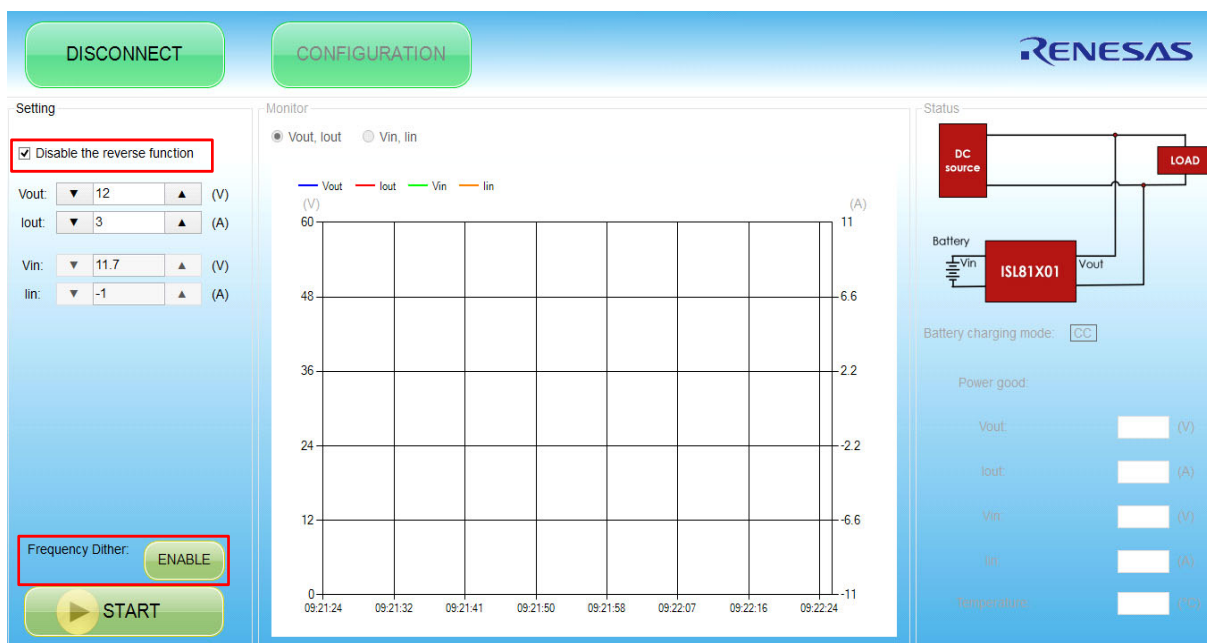

Figure 17. Disable Reverse Operation and Enable Dither Functions
- **Disabling the Reverse Function:** If there is no charge requirement, and the input terminals (VIN, GND) are connected to the power supply, check **Disable the reverse function** (see Figure 17). When this button is checked, the input power supply voltage is not related to the input voltage set point and the output terminal should not be connected to any power supply.
- **Enabling the Frequency Dither Function:** When Frequency Dither is required, the Enable pin enables the Frequency Dither function (see Figure 17).